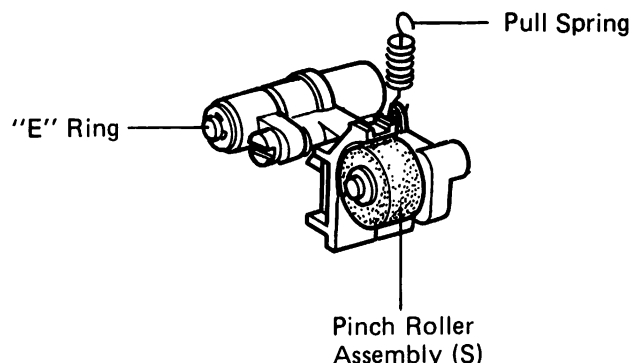

Figure 30
- (1) Remove the cassette deck assembly.
- (2) Remove the "E" ring to take off the pinch roller assembly (S) as shown in Figure 30.
- (3) After replacing the pinch roller assembly (S) with a new one, clean it with absolute alcohol and assemble it in the reverse way to the disassembly.
- (4) After assembling, confirm tape speed and wow/flutter are suitable according to "Adjustment Procedures".